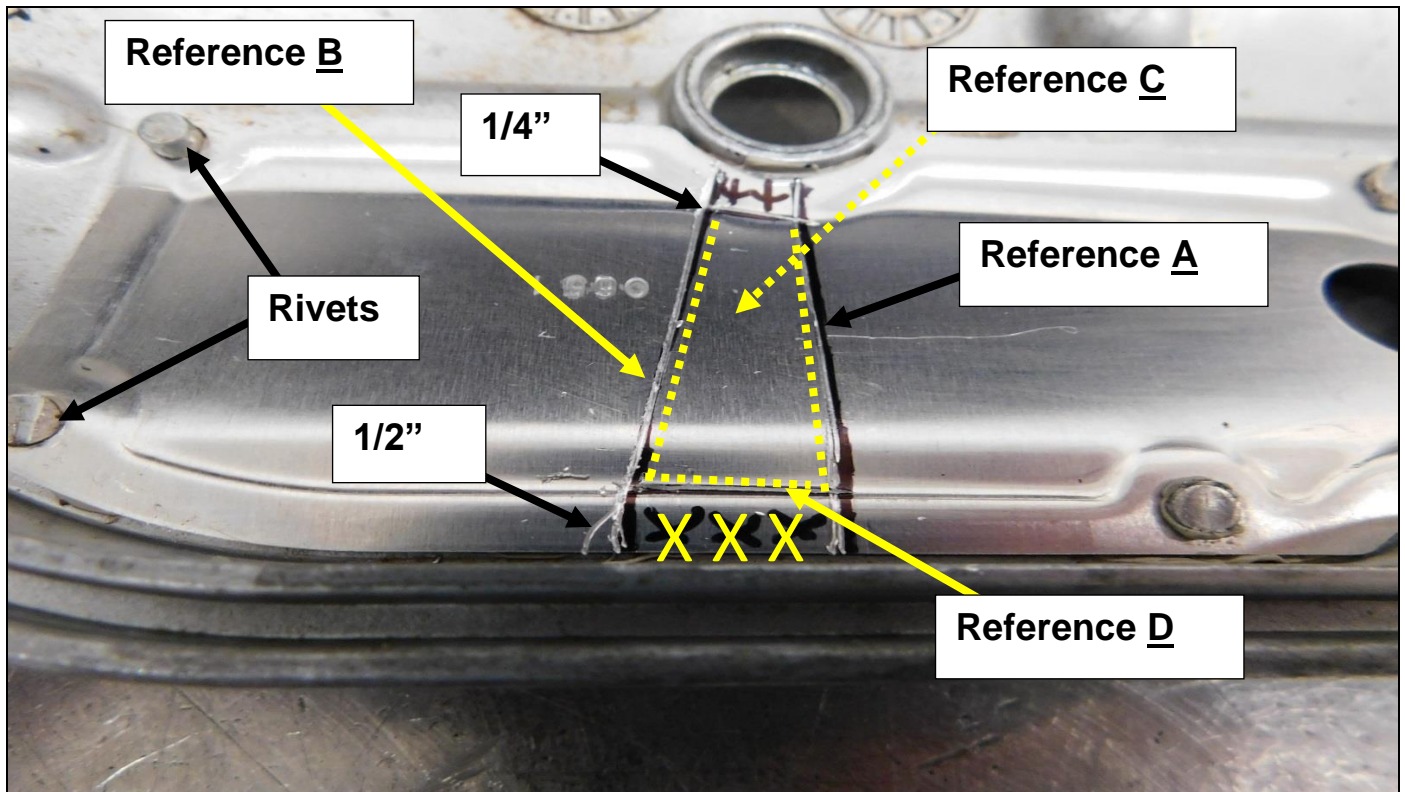

Figure 8
1. Measure from the edge of the baffle plate towards the center of the valve cover and make a reference mark at 1/8" past center of the bolt hole in the top of the valve cover (reference mark **A** – **Figure 8**).
2. Measure from the reference line **A** back towards the edge of the baffle plate 1/4" and make a mark on the top edge of the baffle plate closest to the bolt hole (**Figure 8**).